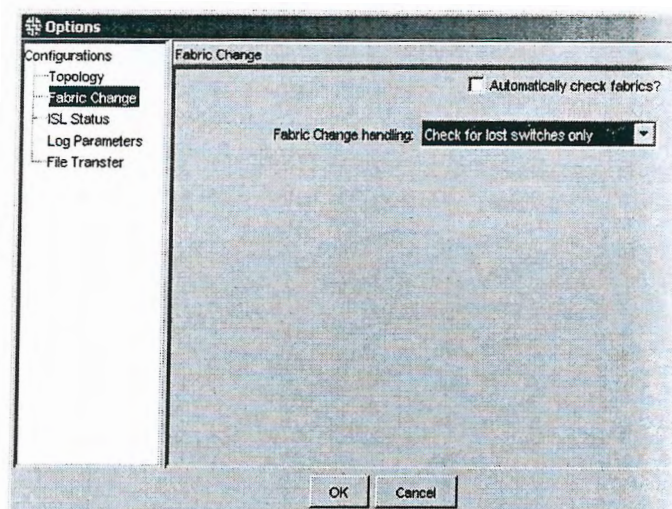

Figure 14-1 Options Window for Fabric Checking
1. From the **File** menu, select **Options...** The **Options** dialog box appears (Figure 14-1).